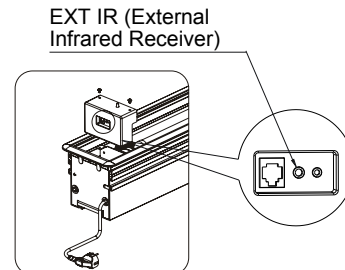

Figure 10
- 5** Re-insert the end plate but DO NOT install the Power Box assembly (figure 10).